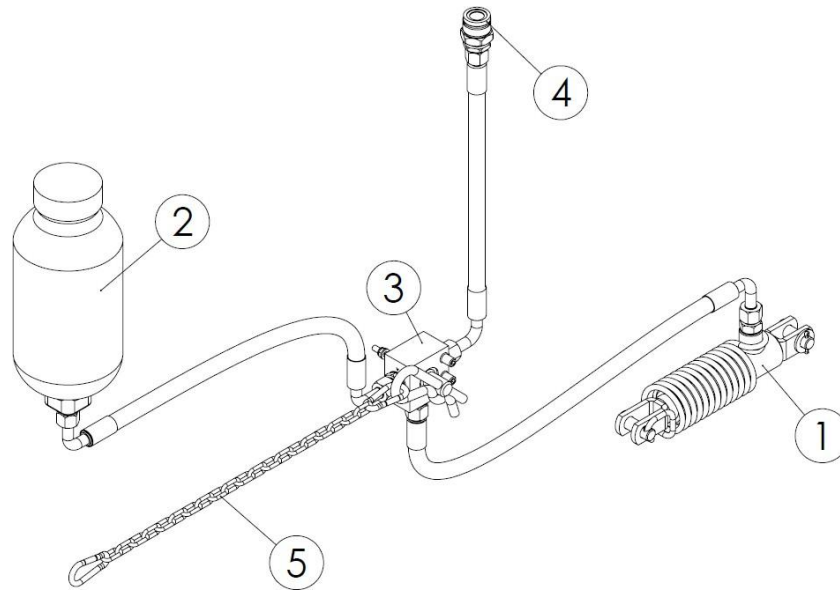

Figure 23. Hydraulic brake system: 1 - hydraulic cylinder, 2 - hydraulic accumulator, 3 - emergency valve, 4 - hydraulic quick coupling, 5 - chain
- Hydraulic brake - Figure 23,
The hydraulic brake system (Fig. 23) has a safety feature - an emergency valve (3). When the feeder wagon disconnects from the tractor, the pin attached to the chain (5) is pulled out and the machine is braked.